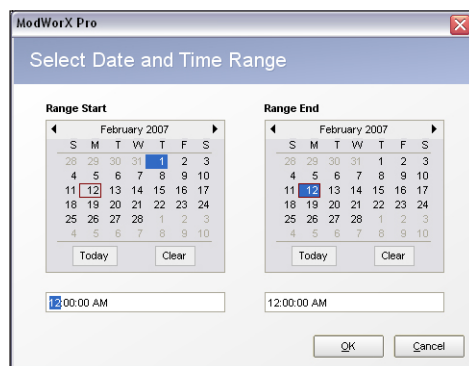

Figure 14.15
- Click on **Set Time Axis Range** and enter a Start date and time and an End date and time using the calendars provided. Figure 14.15, page 191, shows the calendar for selecting a range of interval logs. For daily logs, the calendar will prompt the user to enter a Start and End date only (no times).